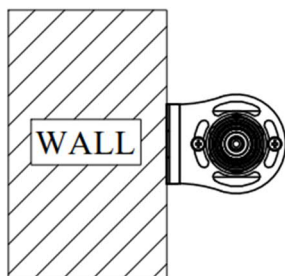
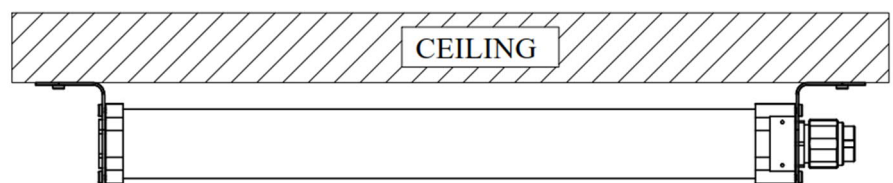

Figure 1
Figure 2
- ☞ The mount bracket is for the use of both Wall mount (Figure 1) and Hanging mount (Figure 2).